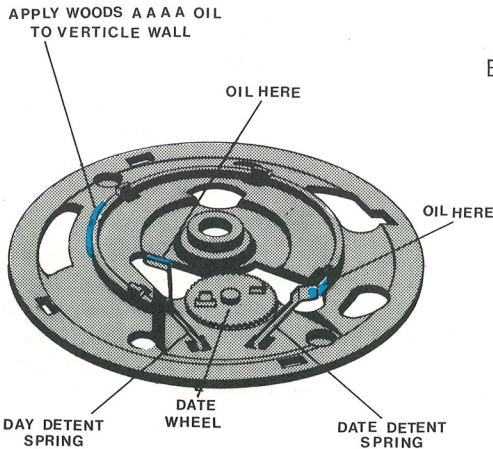

FIGURE 1
- A. Make certain the Day Detent Spring and Date Detent Spring are correctly located in Day-Date Frame Assembly (see Figure 1).
- B. Lubricate the bearing face of the Day Detent Spring and the Date Detent Spring with a thin film (AVOID EXCESS LUBRICATION) of non-spreading watch oil (Moebius Synt-a-Lube oil is used in the factory) as shown in Figure 1.
Lubricate the vertical wall of the Day-Date Frame with a thin film of spreading type watch oil (Woods AAAA Oil is used in the factory) as shown in Figure 1.